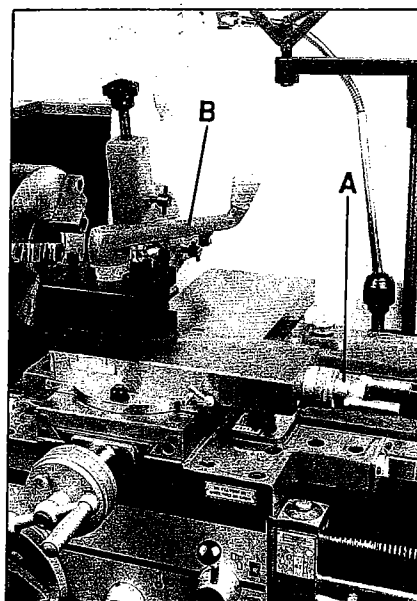

Fig. 18
13. **Compound Rest Traverse Handle** (A, Fig. 18) - located on the end of the compound slide. Rotate clockwise or counter-clockwise to move or position.
14. **Tool Post Clamping Lever** (B, Fig. 18) - located on top of the tool post. Rotate counter-clockwise to loosen and clockwise to tighten.